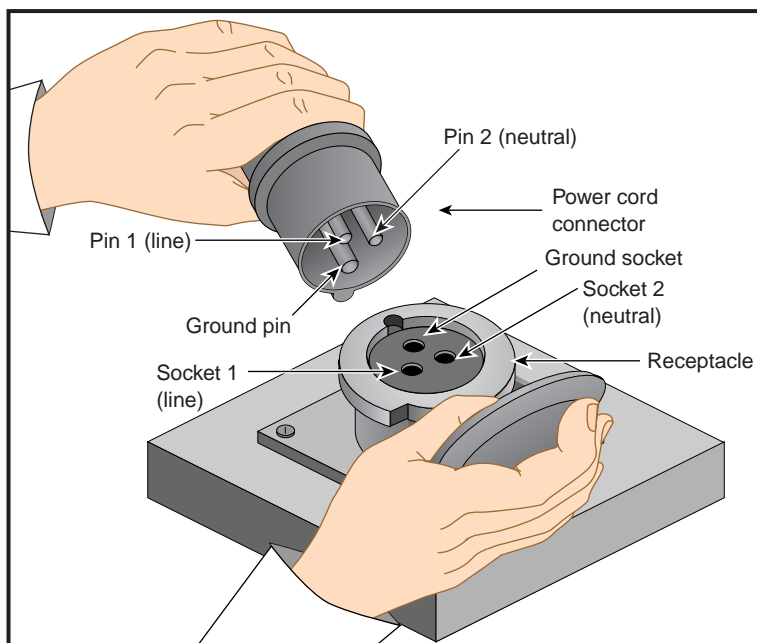

Figure 1-5 Single-phase Power Receptacle for International Sites
2. Check the voltage between socket 1 and socket 2 (see Figure 1-5). The meter should read between 200 and 240 VAC.